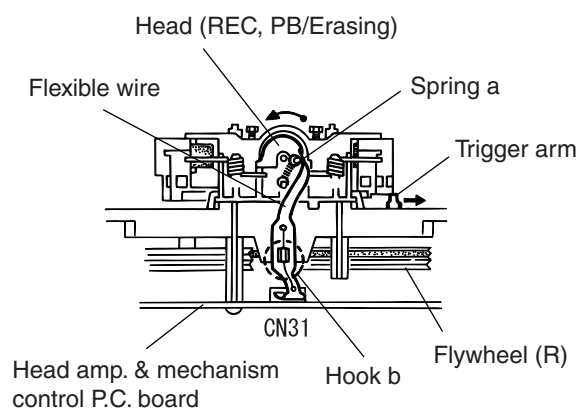
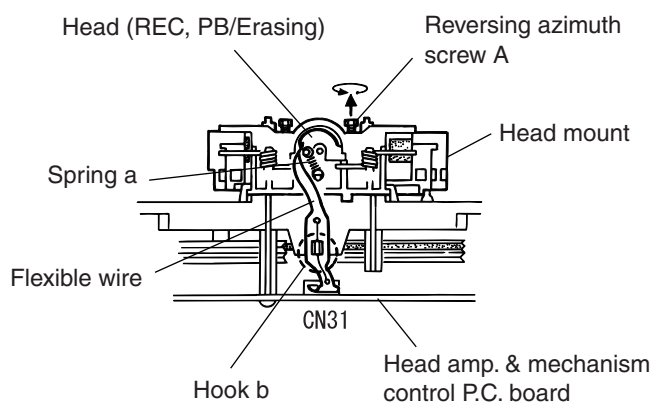

Fig. 2
Fig. 3
2. Turn the flywheel (R) counterclockwise. The playback head accordingly turns counterclockwise from the position shown in Fig. 2 to that in Fig. 3.
3. Leaving the playback head in the position shown in Fig. 3, disconnect the flexible wire coming from the playback head from the connector CN31 on the head amplifier & mechanism control P.C. board.
1. Install the recording, playback/erasing head from the front side of the head mount as shown in Fig. 3.